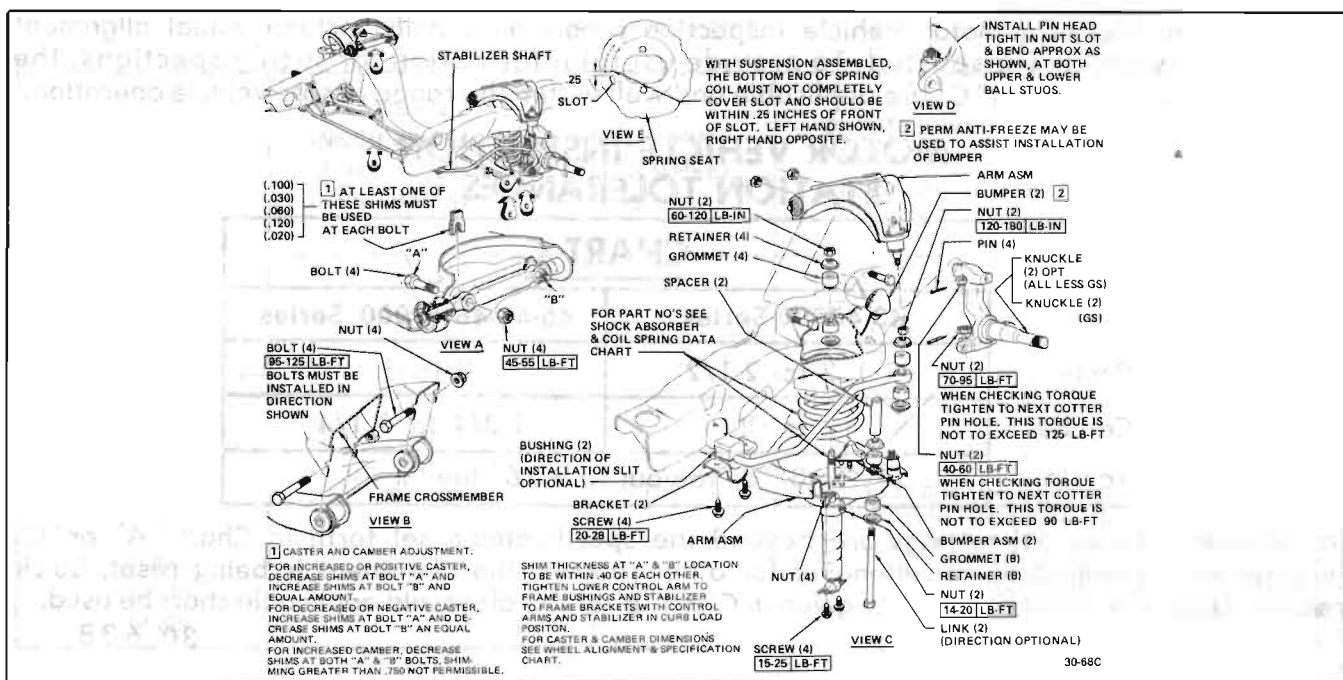

Figure 30-18 Front Suspension Details
7. Position new spring in frame tower and install compressor. Refer to Figure 30-18 for correct spring orientation.